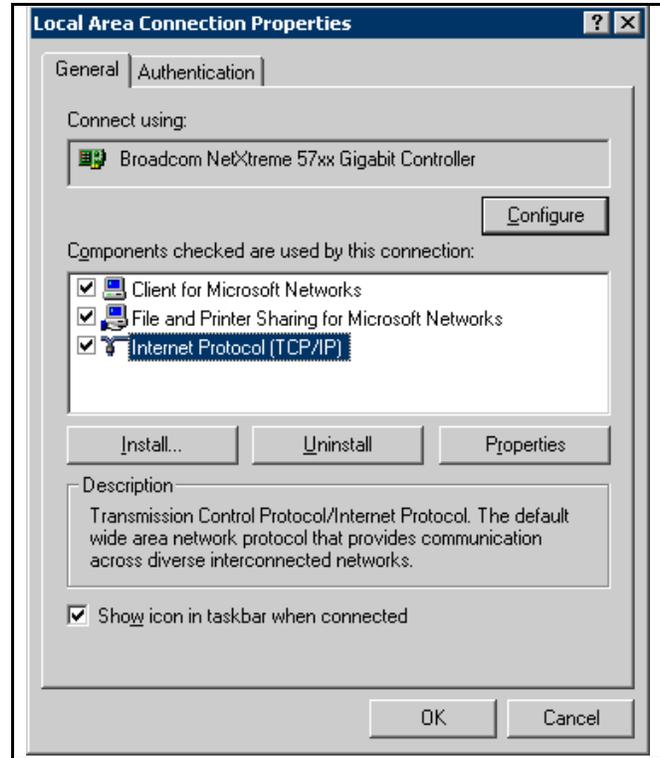

Fig. 12. Properties Page.
2. Right click on the appropriate LAN adapter that will be used for configuring the WebVision and click **Properties** to open the **Network Adapter Properties** popup as shown in Fig. 12.